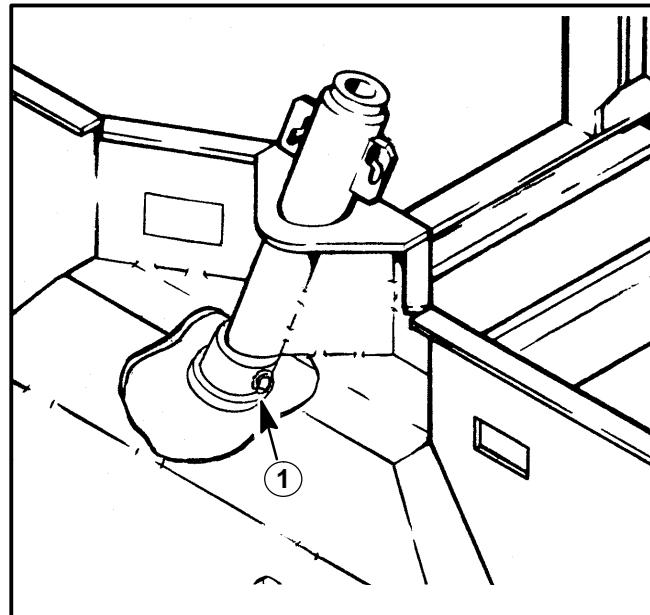

FIGURE 21
- Lubricate fork tube lubrication fitting. See Figure 21 for location of fork tube fitting.